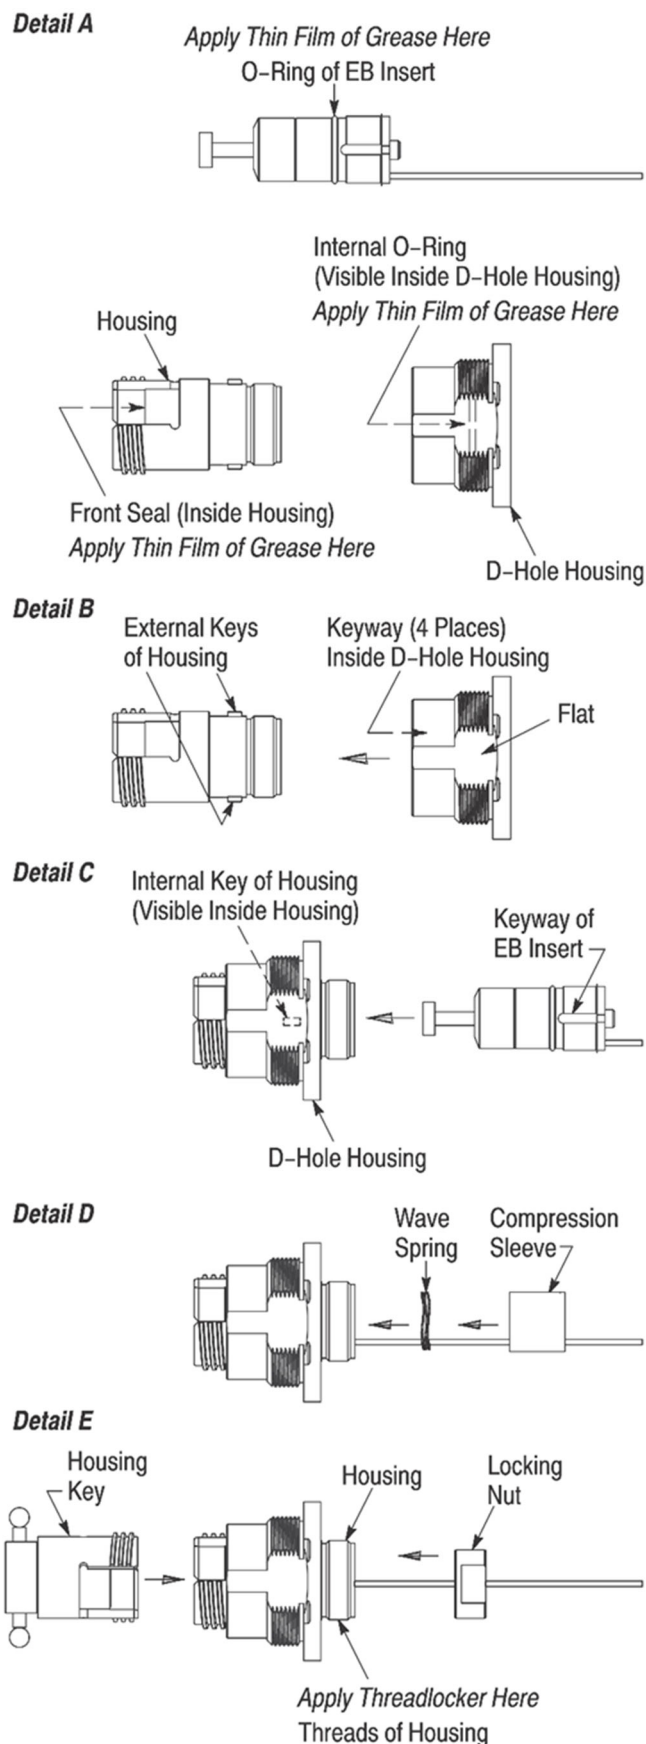

Figure 12
8. Using an applicator swab, apply a *thin film* of the grease around the O-ring of the EB insert and around the inside of the front seal on the inside of the housing. Remove any excess grease. Refer to Figure 12, Detail A.
9. Align the large diameter end of the D-hole housing with the back (end opposite the front seal) of the housing so that the desired rotational orientation is established (use the flat on the D-hole housing as the reference point). Refer to Figure 12, Detail B.
There are 4 rotational orientations for mounting the connector to the panel: top, bottom, left, or right. Aligning one of the keyways located inside the D-hole housing with one of the external keys of the housing will establish the rotational orientation (one keyway is parallel to the flat). Refer to Figure 12, Detail B.
10. Align the internal key of the housing with the keyway on the EB insert, and slide the fixture along with the EB insert assembly into the housing. See Figure 12, Detail C.
13. Slide the wave spring over the crimp sleeve and into the housing. See Figure 12, Detail D.
14. Push-fit the housing key onto the housing. Using the T-handle to hold the connector, apply 2 or 3 drops of the threadlocker to the threads of the housing. See Figure 12, Detail E.